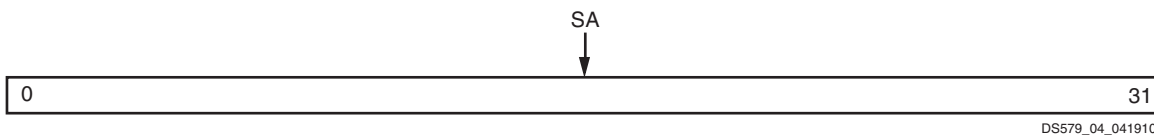

Figure 4: Source Address Register (SA)
The Source Address Register (SA) is shown in Figure 4. It is a read/write register addressed at an offset 0x8 from base address C_BASEADDR. The bit definitions of this register are as shown in Table 8.